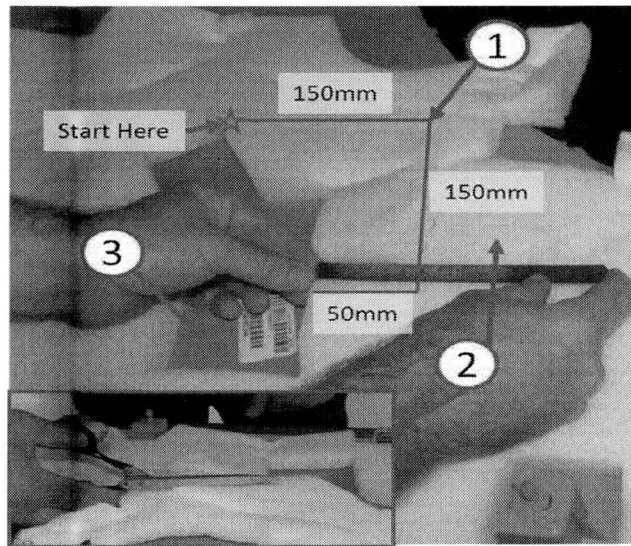

Fig. 3 Trim Sound Deadener
4. Cut the sound deadener on the back side of each door panel as shown in (Fig. 3).